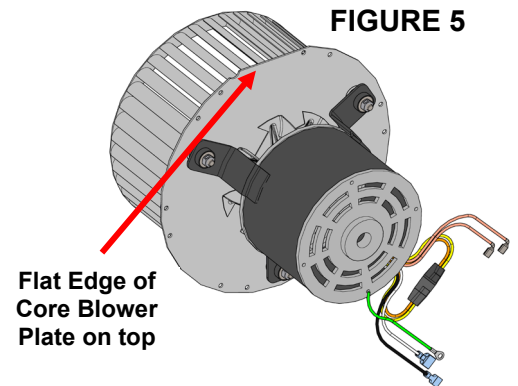

FIGURE 5
14. Insert new core blower assembly, rotating it so that the flat edge of the core blower plate (Figure 5) is towards the top. The blower motor wiring should be off the lower right side of the motor. Secure in place using previously removed hardware.